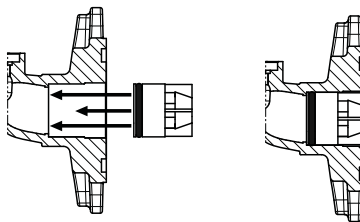

Fig. 1 Check valve installation
- Insert the check valve if required. See fig. 1.